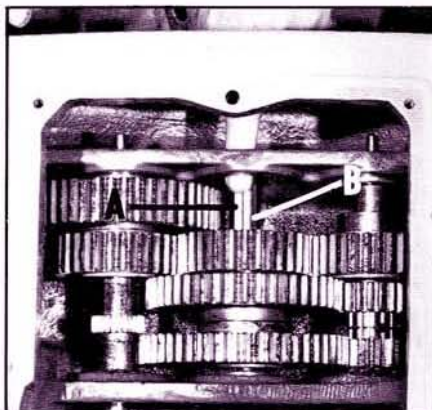

Fig. 30
11. Insert the two long keys, one of which is shown at (A) Fig. 30, into the two keyways in the top half of the shaft (B), as shown.